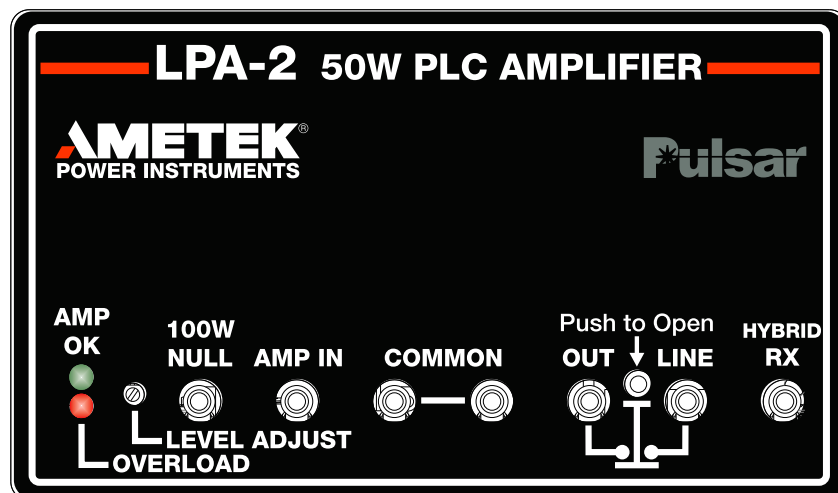

Figure 6–2. Front Overlay.
1. Verify proper connections per the connection diagram, (Figure 6–3). Temporarily terminate the LINE (J5) output of the 100W LPA-2 with the built-in 50 Ω high-wattage load inside chassis 1 of 2 by connecting it to the SHORT-TERM 50 Ω LOAD connector above it with a coax cable.